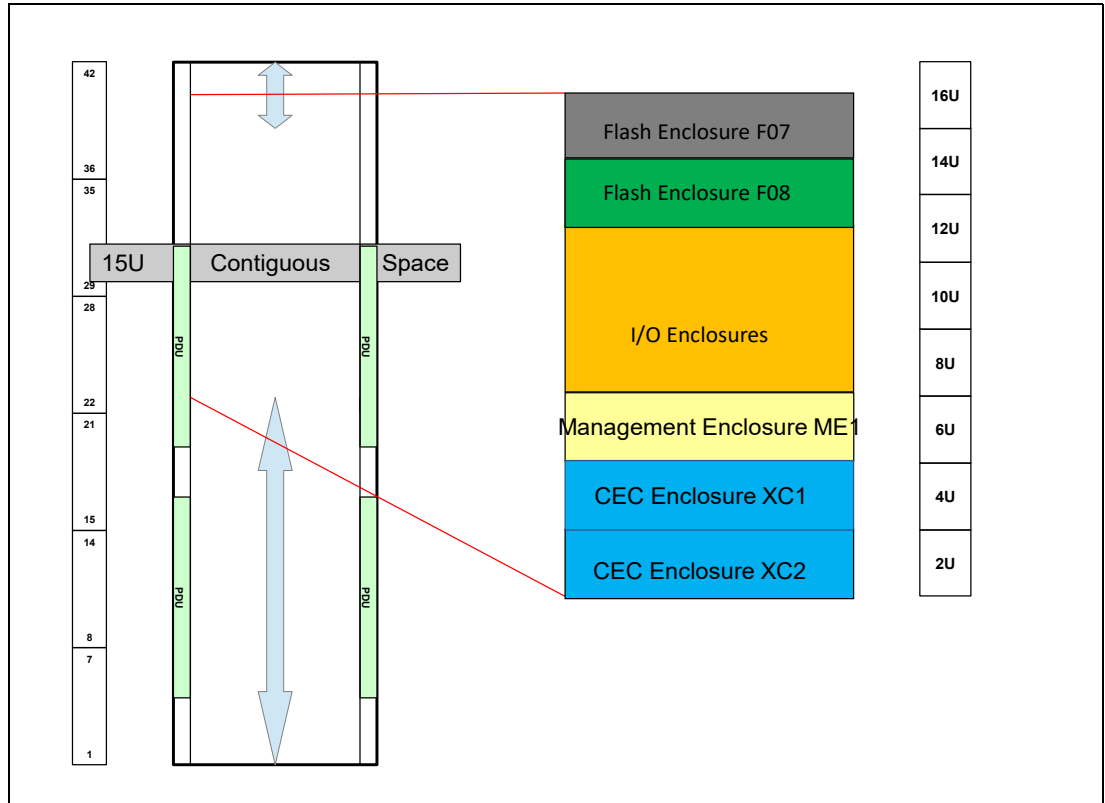

Figure 3-10 DS8910F in a standard 19-inch 15U space
- ▶ All six DS8910F modules are integrated into 15U contiguous space of the intended rack in the specified order. Figure 3-10 shows a block diagram that presents the DS8910F in a standard 19-inch rack. This configuration is the minimum configuration with one pair of HPFE. An optional 1U Display can be installed at 16U.